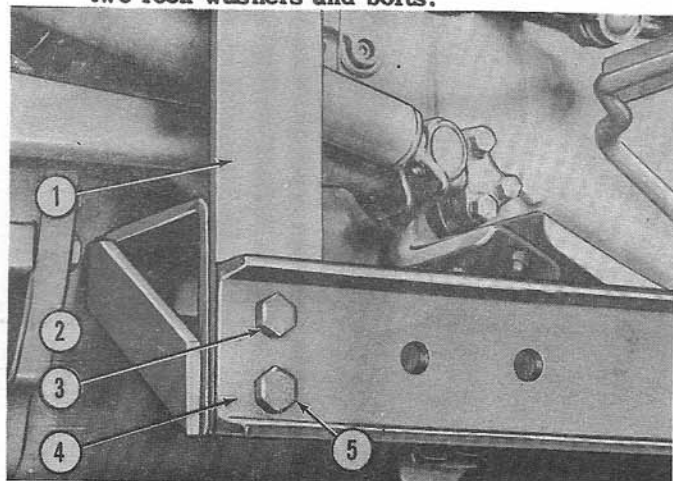
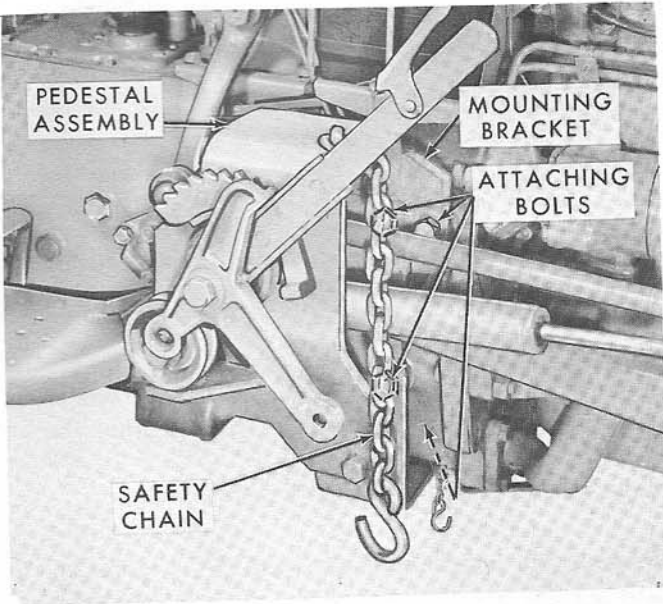

Figure 19
Figure 20
3. Bolt the upper (1) and lower (2) left mounting brackets to the tractor transmission as shown in Figure 19.
4. Attach the left mounting frame to the left axle and to the lower left mounting bracket (2) as follows:
- a. Attach the frame (4) to the lower bracket (2) at the upper hole using one bolt (3), lock washer, and nut provided.
- c. Secure the mounting frame (4) to the rear axle with the two fender bolts.
- d. Install the lower bolt (5) in the frame and secure with a lock washer and nut provided.
5. Attach the pedestal mounting bracket to the side of the transmission case with three 5/8" - 11 x 1-3/8" bolts and lock washers, and one 5/8" - 11 x 2" bolt and lock washer as shown in Figure 20.